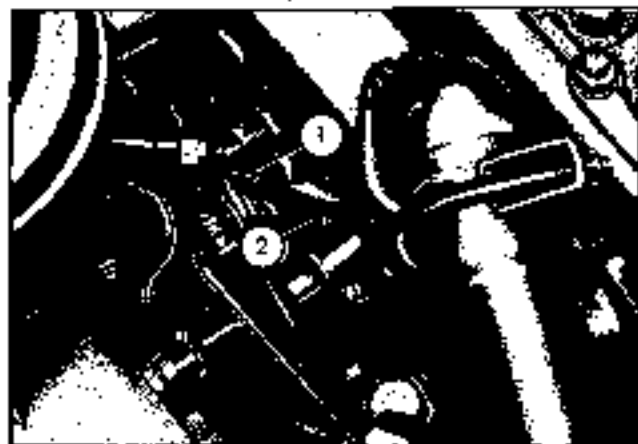

Fig. 1-12. Gasoline carburetor
- Screw in the idle adjusting needle (2, figure 1-12) until it just starts to seat. DO NOT USE FORCE. Then, open the needle two full turns.
- Make certain the throttle stop screw (1, figure 1-12) is holding the throttle disc slightly open.